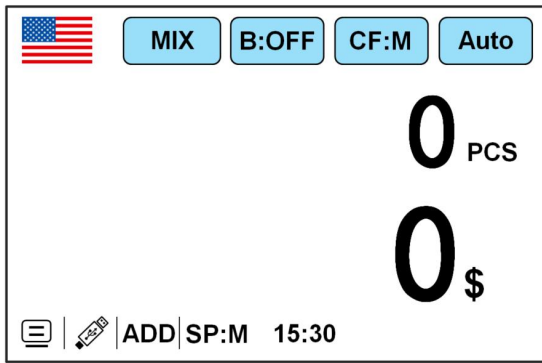
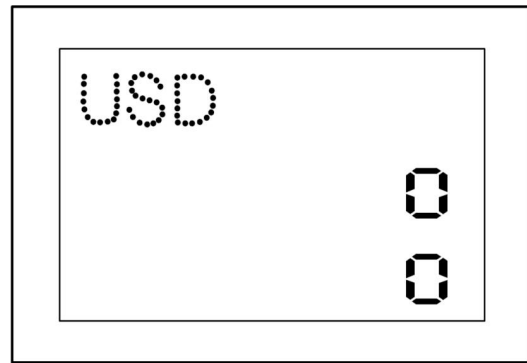

Figure 69
Figure 70
2)Example: The machine selects the US dollars currency mixed point mode, as shown in Figure 69, at this time the word "USD" will appear on the external display, as shown in Figure 70: